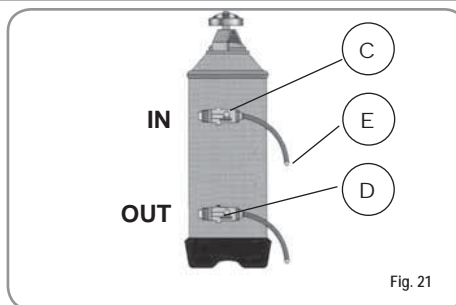

Fig. 21
1) Turn the machine off and place a container large enough to contain at least 5 litres under tube E (Fig. 21).